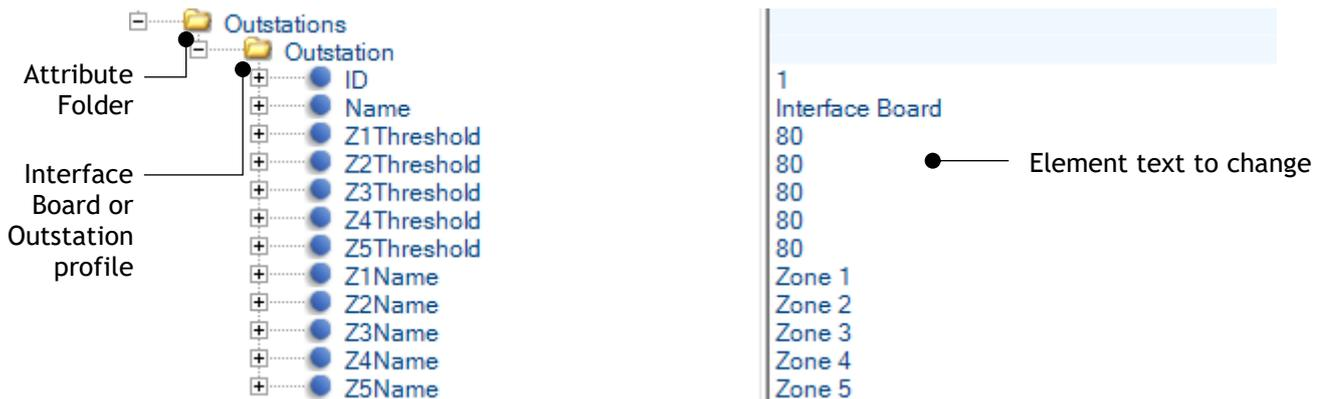

Figure 26: Expanded Outstation profile Folder (First Profile for Interface Board)
The first (or only) Outstation profile will be for Interface Board configuration (**Figure 26**); the second profile onwards are to configure Outstations.
1. Click the icon next to the **Outstations** attribute folder and then the **Outstation** folder to expand them. All configurable elements will appear below, along with element text to change in the right column (**Figure 26**).
1. Click the icon next to the **Outstations** attribute folder to expand it. At least one existing **Outstation profile** folder will appear below (Figure 26).